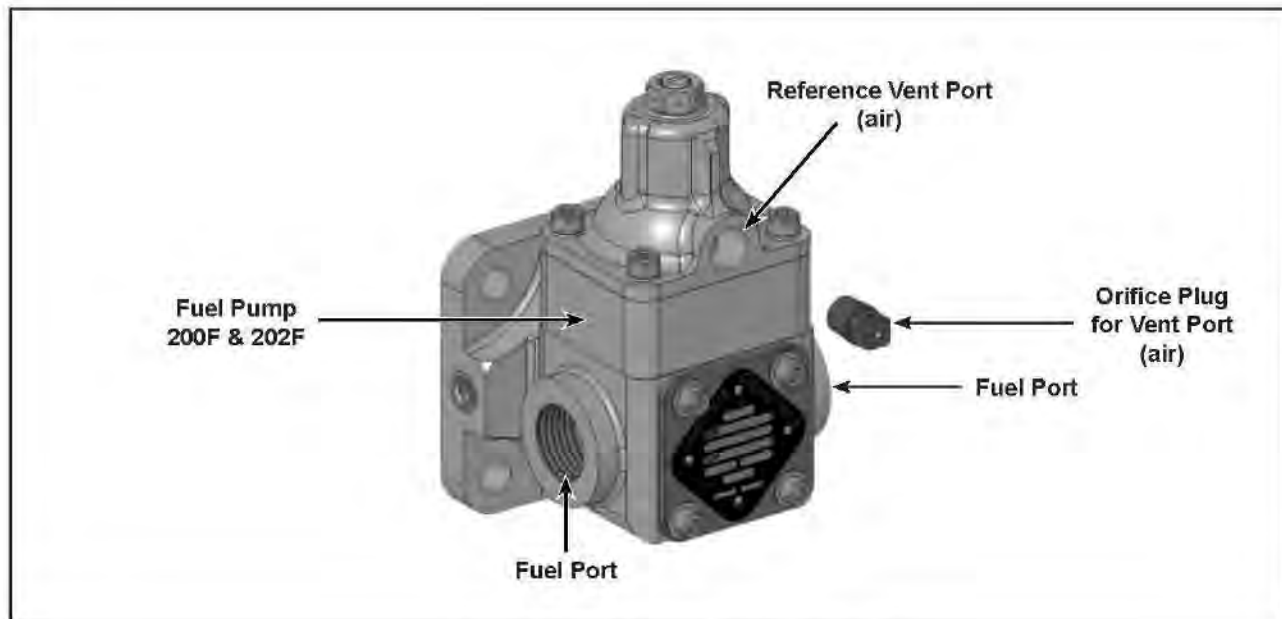
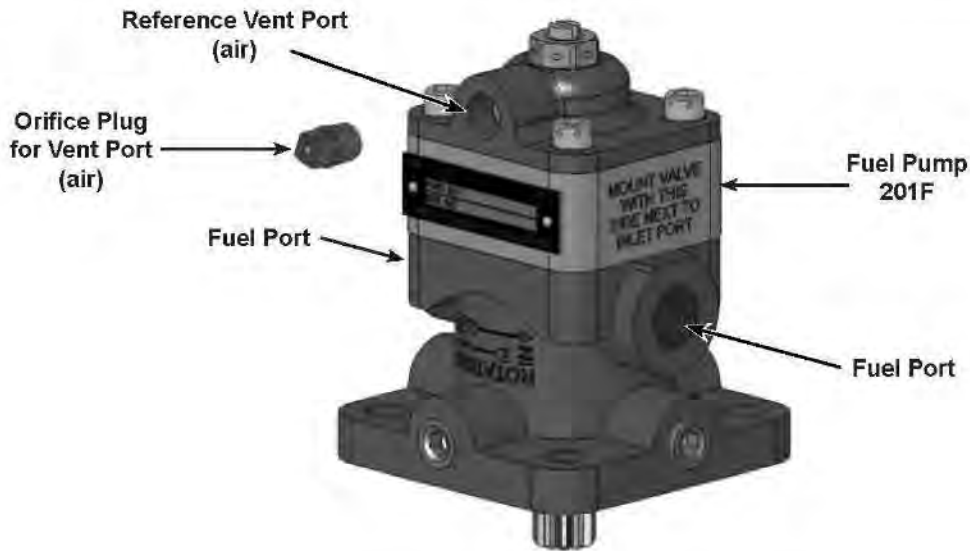

Figure 1 - 200F & 202F Identification
Figure 2 - 201F Identification
- (1) The HET series fuel pumps use the reference vent port in several ways. The port may have an orifice plug installed, a fitting for an upper deck reference line, or a fitting to connect to the engine upper deck reference.
- (a) Inspection of the orifice plug requires only a visual inspection. Look around the plug and into the orifice for fuel or blue dye stains. Refer to Fig. 1, Fig. 2, or Fig. 3.